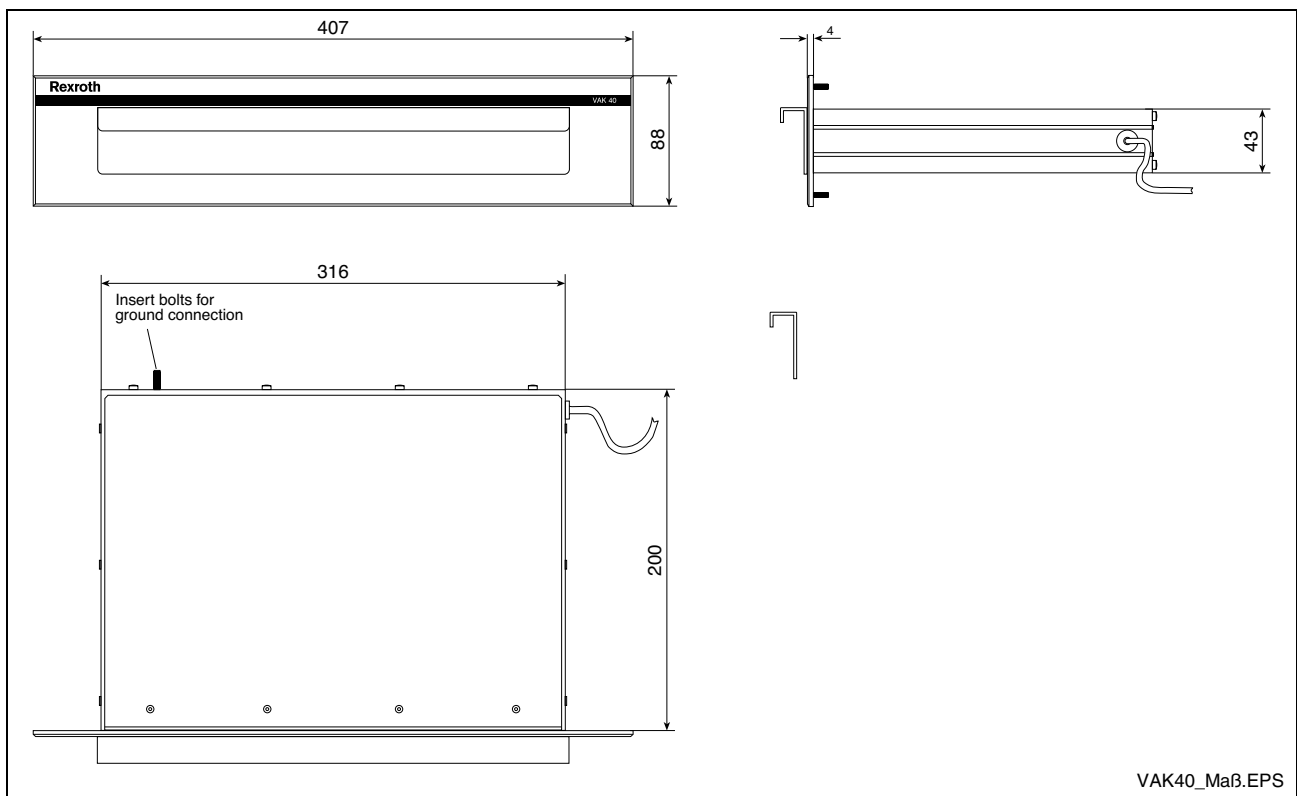

Fig. 7-2: Housing dimensions VAK 40.1
- Fig. 7-2: Housing dimensions VAK 40.1 7-2